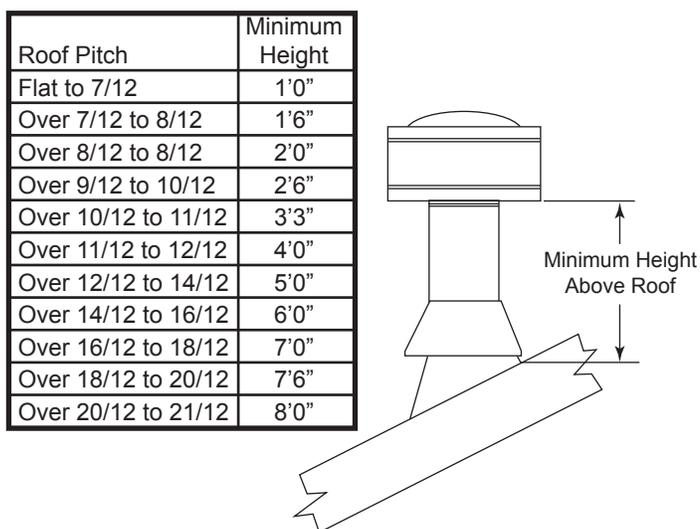

Fig. 44 Minimum Height Above Roof Requirements
10. Tighten the tabs of the collar. Secure the support collar by inserting three (3) #8 x 1/4" sheet metal screws through the support collar and the outer wall of the pipe.
11. Add lengths of pipe and firestop as necessary until assembly extends to a point above the roof which complies with local code requirements for minimum termination height and with the appliance manufacturer's installation instructions. (Fig. 44)
14. Position the storm collar around the pipe and slide down until it is in contact with the flashing. Secure the storm collar by inserting the two (2) tabs into the raised slots and fold tabs back. Seal the area between the storm collar and the vent pipe with a silicone sealant to prevent rain infiltration.
15. Install the vertical termination (VC) by inserting it down into the top most section of pipe until it is fully seated. Depress lock tab to secure the cap to the pipe. **NOTE:** In high wind areas, it is recommended to screw termination to the pipe with two (2) #8 x 1/4" sheet metal screws. The screws should be approximately 3/4" from the bottom of the vertical termination's galvanized collar.